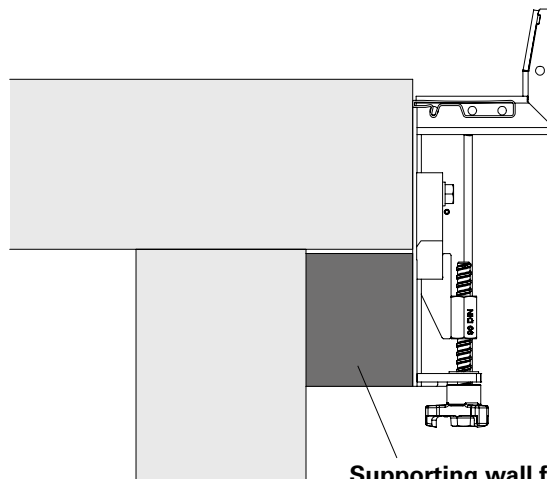

Fig. B1.03
- The wall formwork console must cover the entire surface. The stability of the wall formwork console should be supported if necessary. (Fig. B1.03)